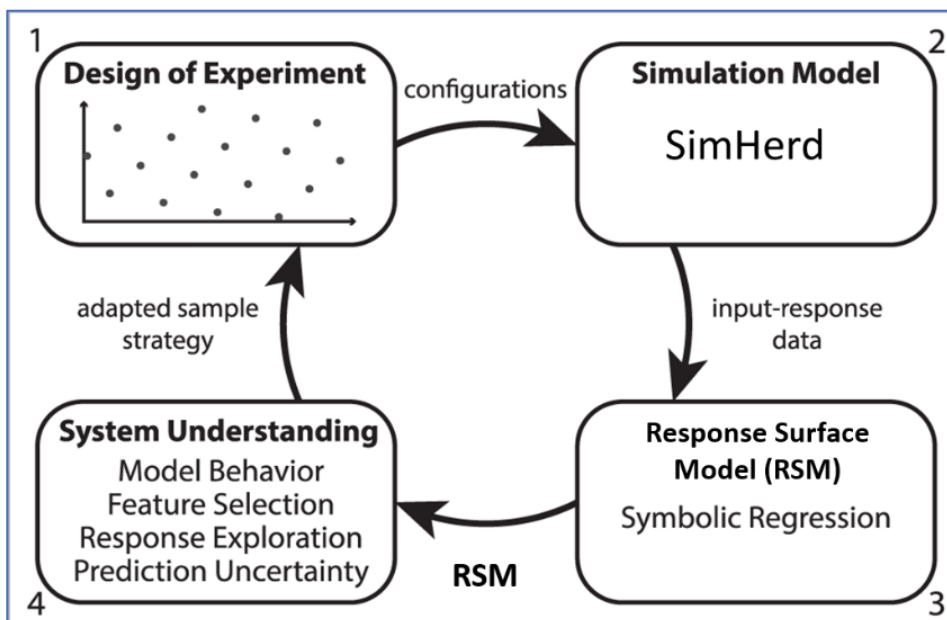

Figure 3: Making a Response Surface Model (RSM) modified after Willem & Stijven (2014)
A SimHerd-Flex application is a light version of the full SimHerd model (see <https://simherd.com/en/simherd-expert/>). The technical term of this light version is the so-called Response Surface Model (RSM). The RSM is a set of equations that describes the behaviour of the full SimHerd model as good as possible, while easier and faster to use. The benefit of working with a set of equations, is that it can be incorporated in a dashboard or app and give the user immediate answers based on a limited selection of inputs. Figure 3 presents a simplified illustration of how an RSM is created.
In step 2 (Figure 3) each of the 432 scenarios were simulated by SimHerd in weekly steps over a period of 10 years. The simulated technical results (like milk yield per cow-year) and economic results (like Gross Margin (GM) per cow-year) summarised over the last 5 simulation years were used in the next step.
In step 3 (Figure 3), a regression model was built to describe the simulated output parameters as a function of the model's input parameters. In other words, the regression model describes the simulated GM per cow-year (the dependent variable,  $y$ ) as a function of the input parameters like the herd's disease risk and milk price (the independent variables,  $x$ 's). This regression model is also referred to as the RSM.
In step 4 (Figure 3), it was evaluated to what extent the RSM was able to describe the 432 data points. Furthermore, the behaviour of the RSM was studied when using input parameters ( $x$ 's) beyond the range of original input parameters from the design of experiment (extrapolation).